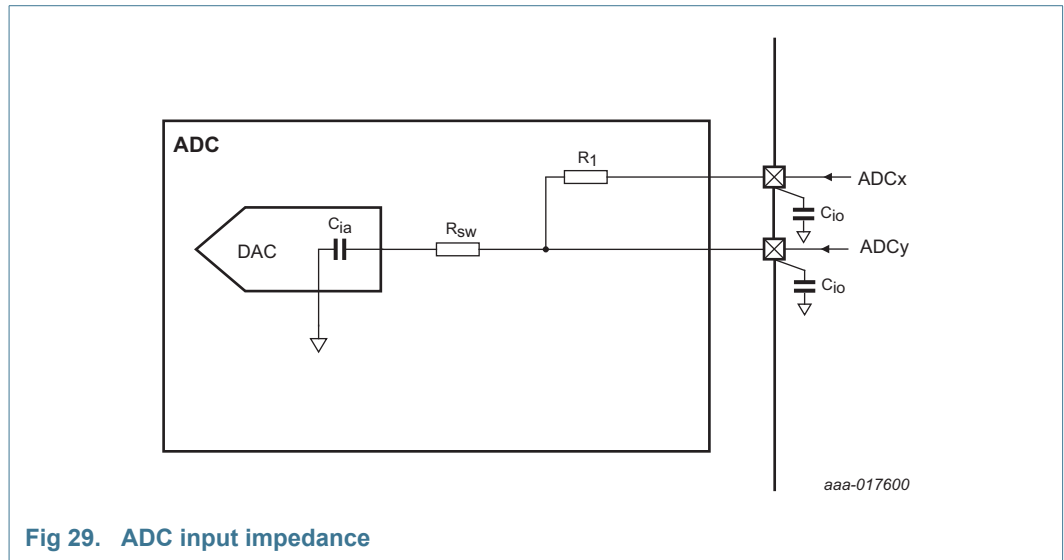

Fig 29. ADC input impedance
- [10] Input impedance Z_i is inversely proportional to the sampling frequency and the total input capacity including C_{ia} and C_{io} : $Z_i \propto 1 / (f_s \times C_i)$. See Table 20 for C_{io} . See Figure 29.
- (1) Example of an actual transfer curve.
- (2) The ideal transfer curve.
- (3) Differential linearity error (E_D).
- (4) Integral non-linearity ($E_{L(adj)}$).
- (5) Center of a step of the actual transfer curve.
Figure 29 shows the ADC input impedance. In this figure: